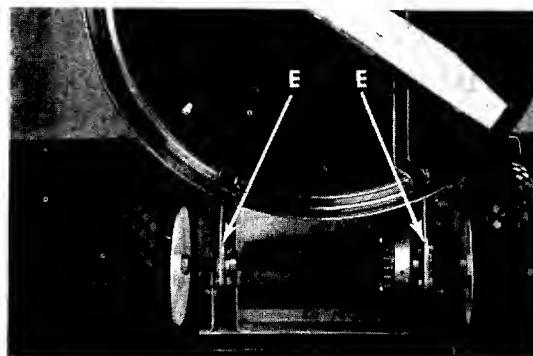

**FIGURE 13. OIL DRAIN**
Step 1. With the machine on level ground, place a suitable metal container under the oil drain plug located on the front of the engine. See figure 13.